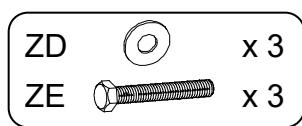

Fig. 1
1. Lay out and identify the parts from the Queen (#2935) or King (#2938) or Cal-King (#2941) Base Kit. Set aside part Trestle Rail (X) (Queen) or Trestle Rail (Y) (King) or Trestle Rail (ZA) (Cal-King) for use later in the assembly process. Use the notch and dowels on Square End Support (U) and Mitered End Support (T) as guides and attach them to the Right Support (W) using the Hex Bolts (ZE) and Washers (ZD) from the Base Kit. See Figures 1 and 1a.